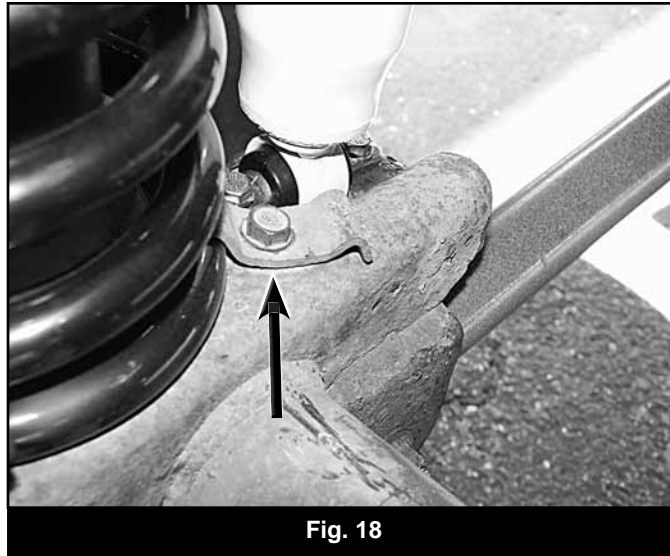

Fig. 18
46. If equipped, remove the lower coil spring retainer clips from the axle (Fig 18). Retain clips and bolts.